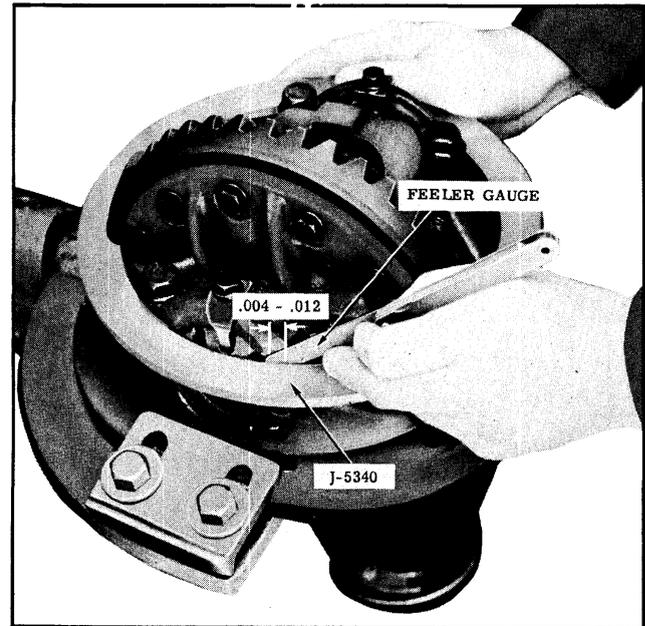

Fig. 6-35 Measuring Pedestal Spread
1. Position gauge J-5340 over pedestal caps as shown in Fig. 6-35. Clearance should be .004" to .012" between gauge and machined surface of pedestal cap.